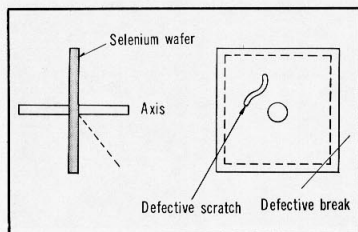

Figure 5-37. Damages to selenium wafer
- (1) Do not bend, cut or scratch the selenium wafers. (Fig. 5-37)